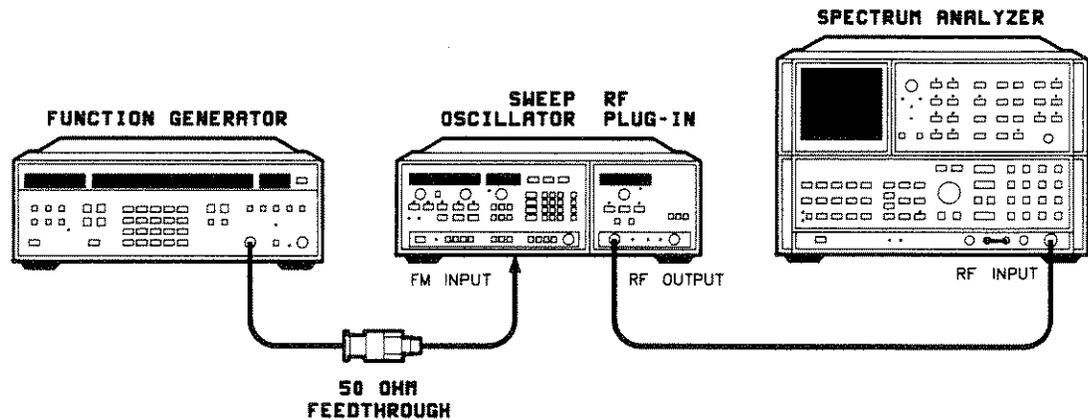

Figure 4-9. External Frequency Modulation Test Setup
2. Connect the equipment as shown in figure 4-9, but do *not* connect the function generator to the FM input yet. Turn all instruments on and allow 1 hour warm up.
Connect the sine wave output as shown in figure 4-9. Then press:
12. On the function generator, connect the output as shown in figure 4-9.